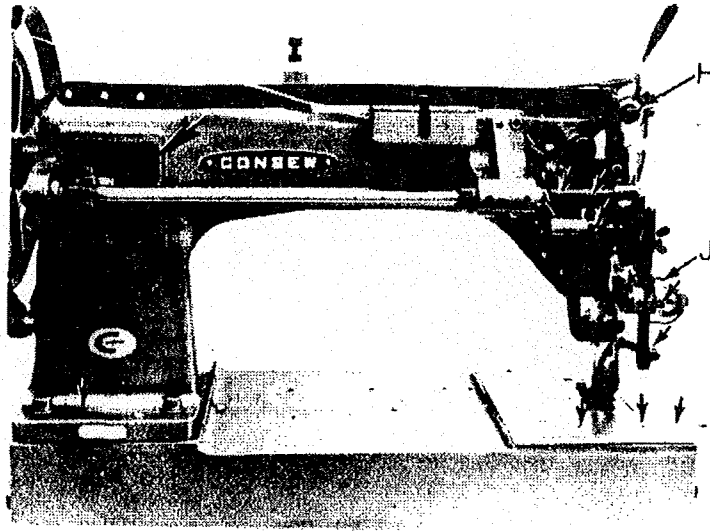

Fig. 11 Oiling Points at Back of Machine
- A. The tension on the needle thread is regulated by the thumb nut H Fig. 11 at the front of the thread retaining discs and the thumb nut J Fig. 11 at the front of the tension wheel. The tension on the thread retaining discs should be only enough to cause the tension wheel to turn when the thread is taken from the spool.